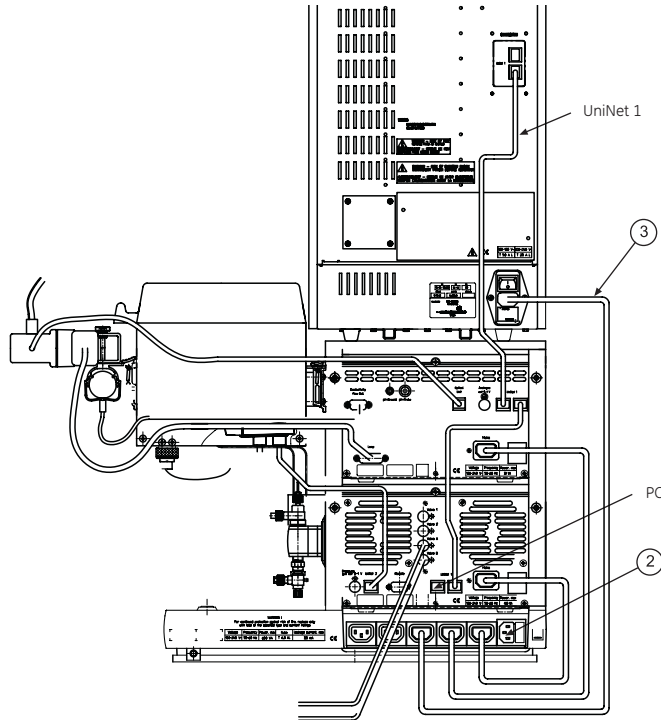

Fig 5-1. Connecting UniNet 1 and mains cables.
- 3 Connect a UniNet cable between one of the **UniNet 1** sockets in the autosampler and a **UniNet 1** socket in the Monitor UPC-900, see Fig 5-1.
- 1 Connect a mains cable (2) supplied between Ettan microLC and a properly grounded mains socket, see Fig 5-1. Do not switch on!
- 2 Connect a mains cable (3) between the autosampler and a mains socket at the rear of Ettan microLC, see Fig 5-1.